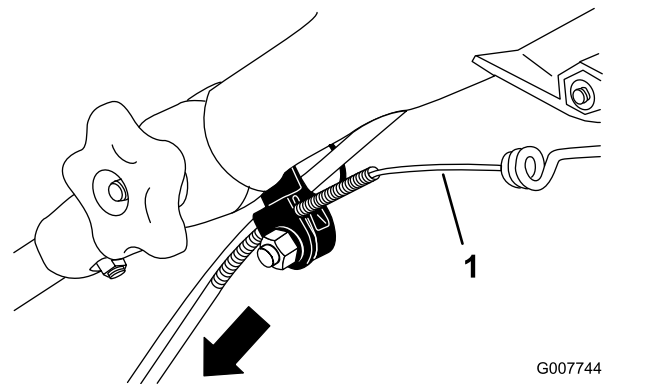

Figure 47
3. Pull the cable jacket downward until you remove the slack in the exposed cable (Figure 47).